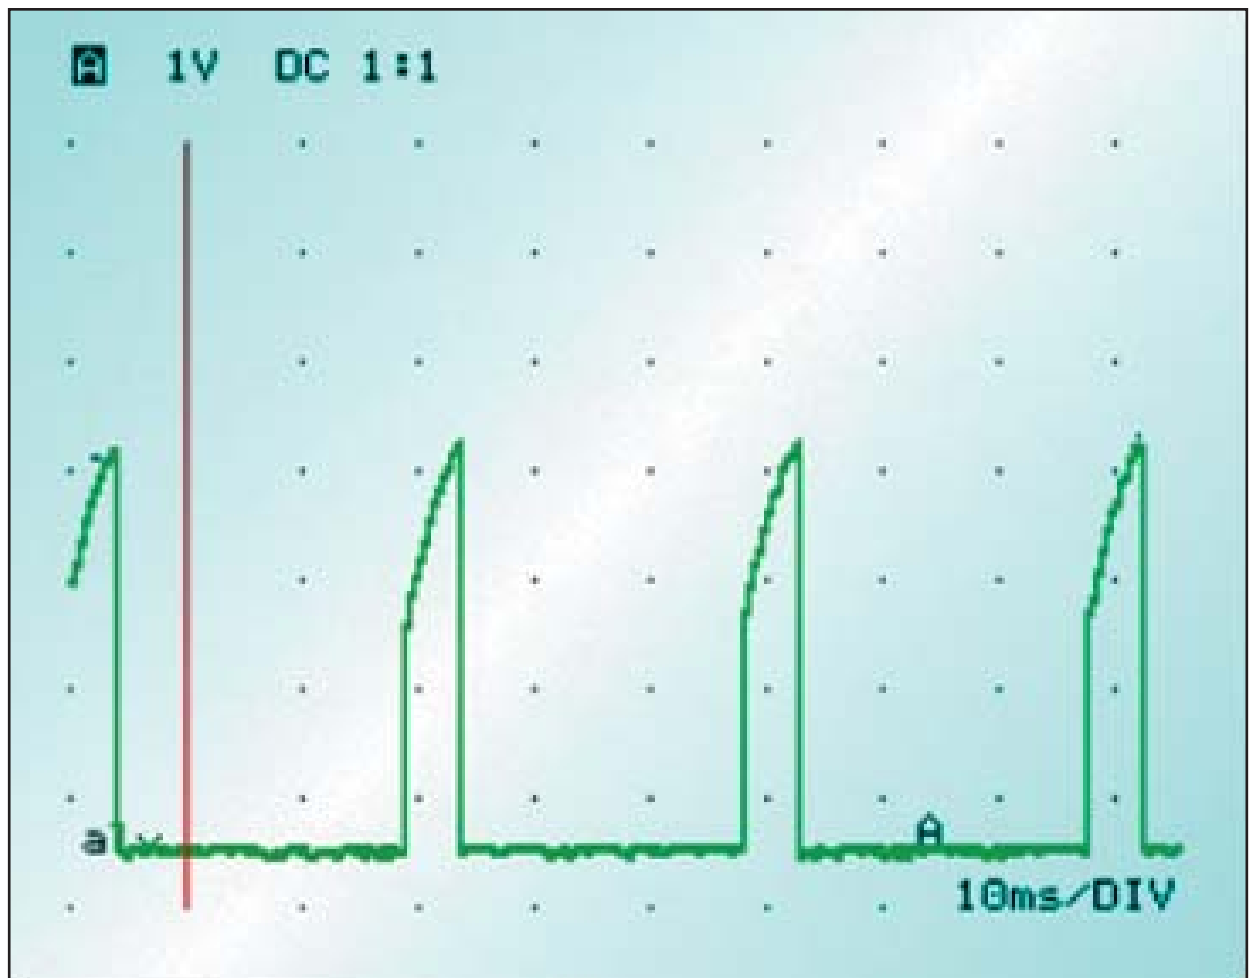
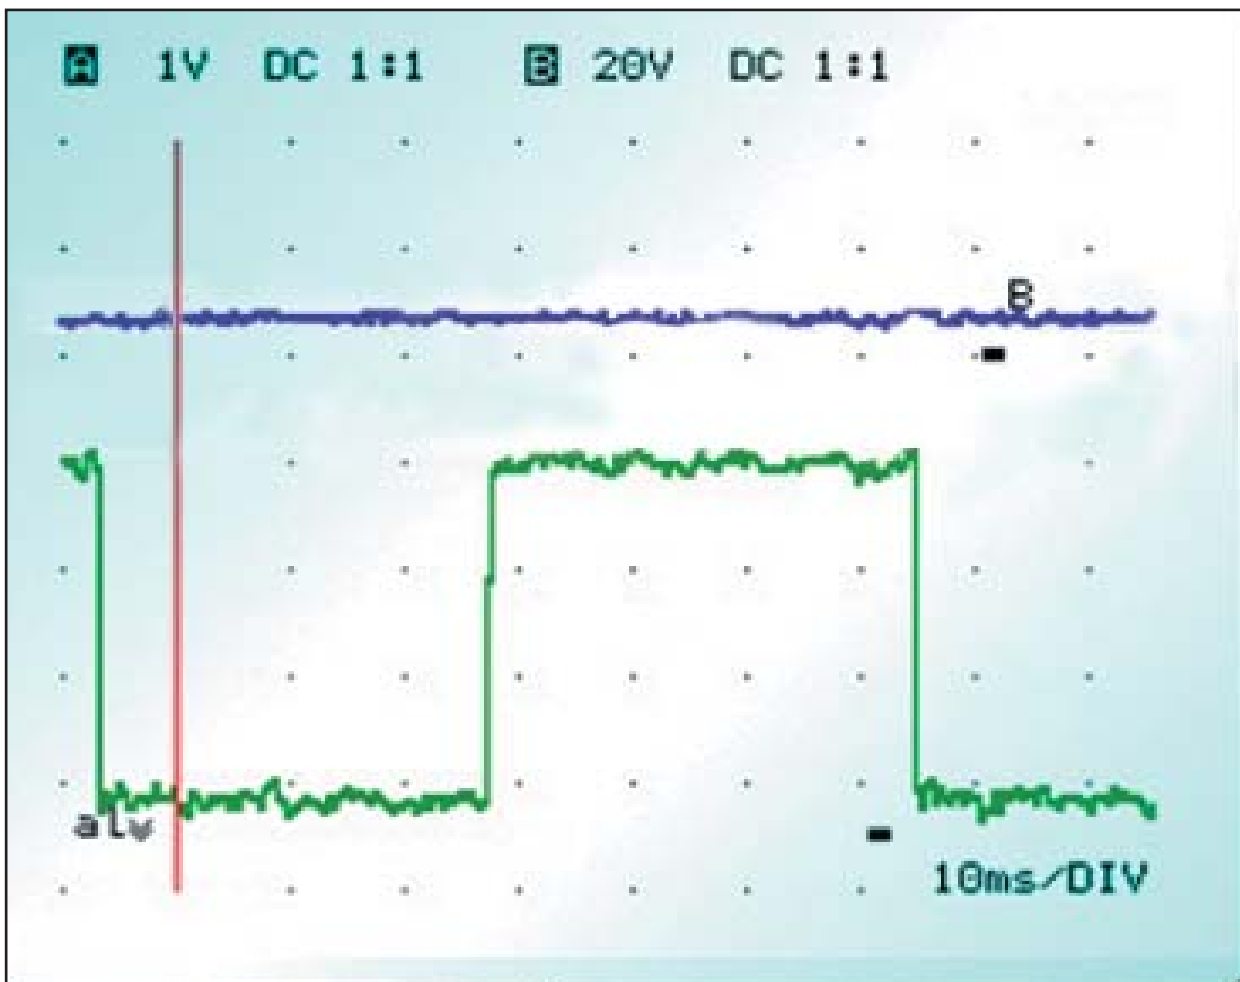

Figure 1: A mystery waveform. Does this look like a distributor pulse generator signal?
Figure 2: Channel A is the same distributor output as the engine died. Channel B is attached to the primary negative terminal.
- The only signal that looked like a pulse generator signal the one he spoke of on the phone appears in Figure 1.
- The Figure 1 signal he found changed pattern to the one in Figure 2 just as the engine lost fuel or spark and died. The B-trace in Figure 2 is the ignition primary negative terminal.
Our caller began with this diagram and the assumption the distributor had at least one and probably two magnetic pulse generators. The waveform in Figure 1 looked more like a pulse generator waveform on the scope than anything the other terminals displayed. Aggravating the situation
Well suppose this signal is a pulse generator signal. When the car died the pattern turned into what we see in Figure 2. Now that is clearly a digital signal. What's going on?
Let's re-start by examining our first assumption — there had to be a pulse generator signal. Put your finger over the top ramping portion of the signal (Figure 1). What do you see? A repetitive digital signal an on-off not a jagged sawtooth pattern. Now remove your finger. Add what you now see to what you just saw. It's a repetitive digital signal with an upward ramping top (RDS w/URT).
Now what do we see in Figure 2 watching the same sensor the same terminal just as the engine dies? Great! It's a regular on-off digital signal.
Figure 4 shows what we found. This must be a timing control pulse because these two signals appear to be sharing something. Look back at Figure 2. The scope captured this waveform just as the engine died. The blue signal the B-trace is the ignition primary. What changed in our RDS
Let's look at Figure 2 again. What does this signal tell you? The igniter control signal is still there but we see the primary ignition signal flat-lined. The flat line could be because power to the coil is gone because the coil is open or because there is an open on the power side of the test point. It could be because the driver is shorting the coil to ground all the time or because there is a short somewhere else. We don't know that in particular but we know there can't be a spark.
What voltage would the timing control signal be with an open coil? Look again at Figure 1 the initial ramp voltage is about 2 volts and the peak is about 3.75 volts. In Figure 2 the peak is steady at 3 volts and the ground is elevated a little. What's more there's no